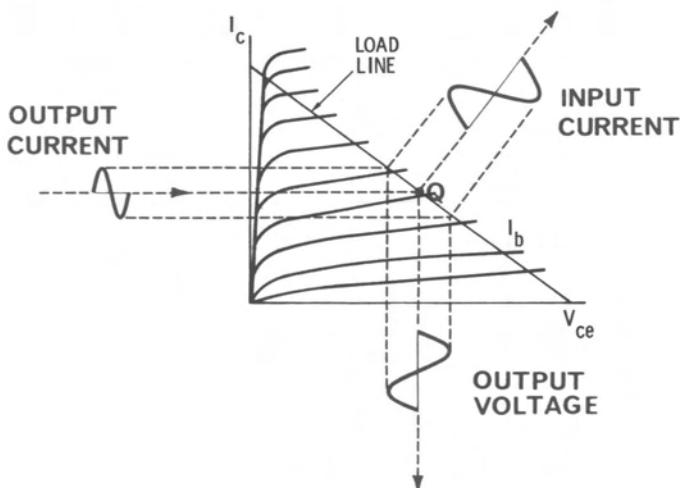

Fig. 4-4. Choice of Q point.
to the regions of nonlinearity. Fig. 4-4 shows a suitable Q point for the size input signal shown. Certain types of transistors are made to be used specifically as amplifiers and will have a large linear region available.
- Q4-6. Referring to Fig. 4-4, why is the location of the Q point considered a good one for class-A operation?
- A4-6.** The quiescent point selected in Fig. 4-4 is a good one for class-A operation because the input signal operates in a linear region. Because of this the output current and voltage are true replicas of the input signal.